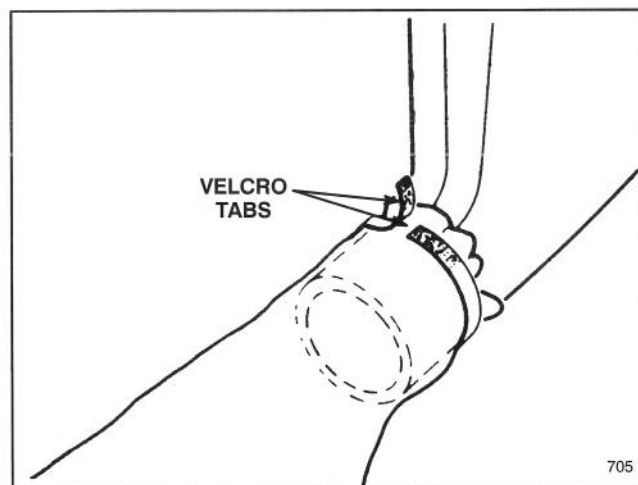

Figure 10
8. Fit opening of vac bag over outlet ribs on blower. Pull strap tightly to overlap velcro tabs (Fig. 10).